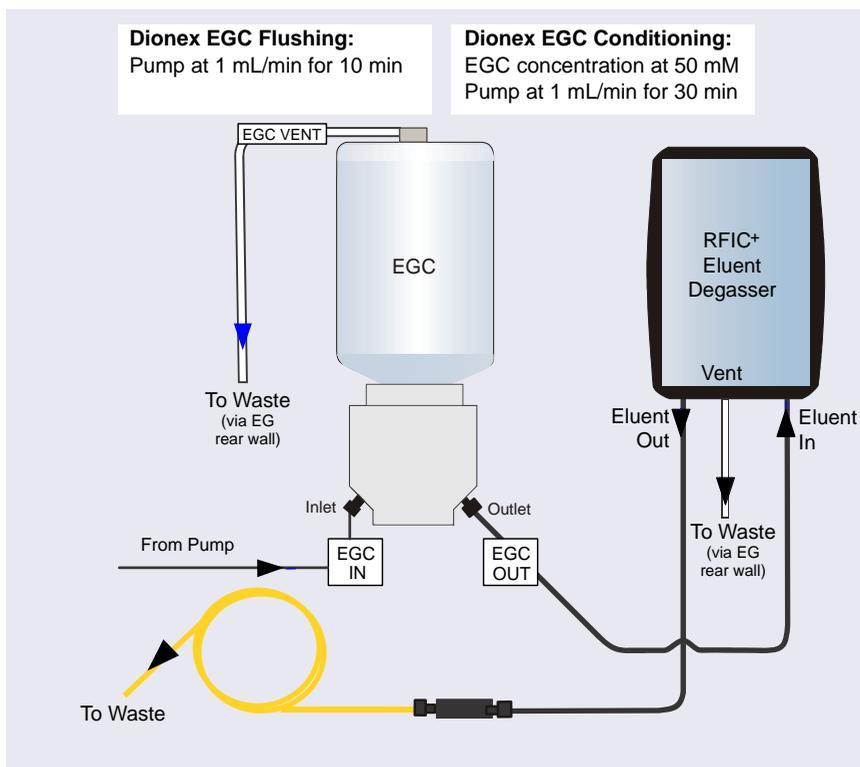

Figure 4-28. Flow Schematic for Conditioning the Dionex EGC: Analytical Flow Version
7. Connect the line from the **ELUENT IN** port of the Dionex RFIC⁺ Eluent Degasser to the Dionex EGC **OUTLET** port (see Figure 4-28). This is a temporary connection.
2. Connect the coil to the **ELUENT OUT** port of the RFIC⁺ Eluent Degasser (see Figure 4-28). Direct the open end to a waste container. This is a temporary connection.